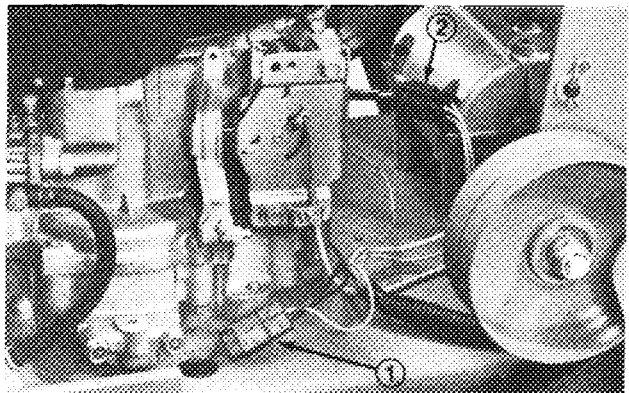

Figure 6
1. Secure clutch and engine in-line connectors (Fig. 6).